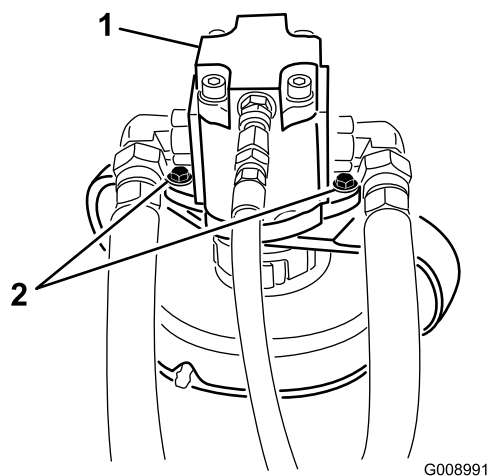

Figure 82
5. Remove the bolts securing the hydraulic motor to the mower deck (Figure 82).
3. Remove the bolts securing the hydraulic motor to the mower deck (Figure 82).